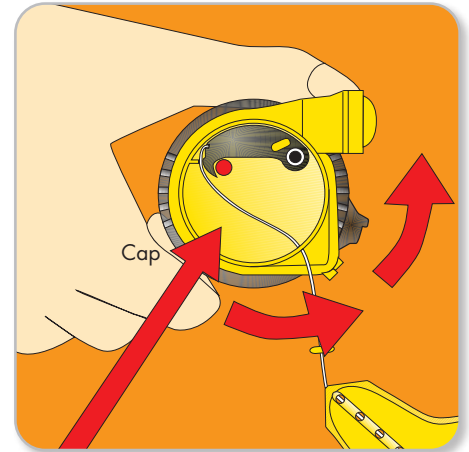
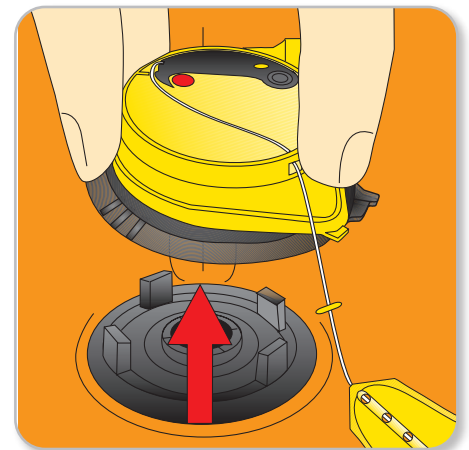

Figure 4
Figure 5
3. Now turn black locking ring counter-clockwise (Figure 4) and lift off cap (figure 5)